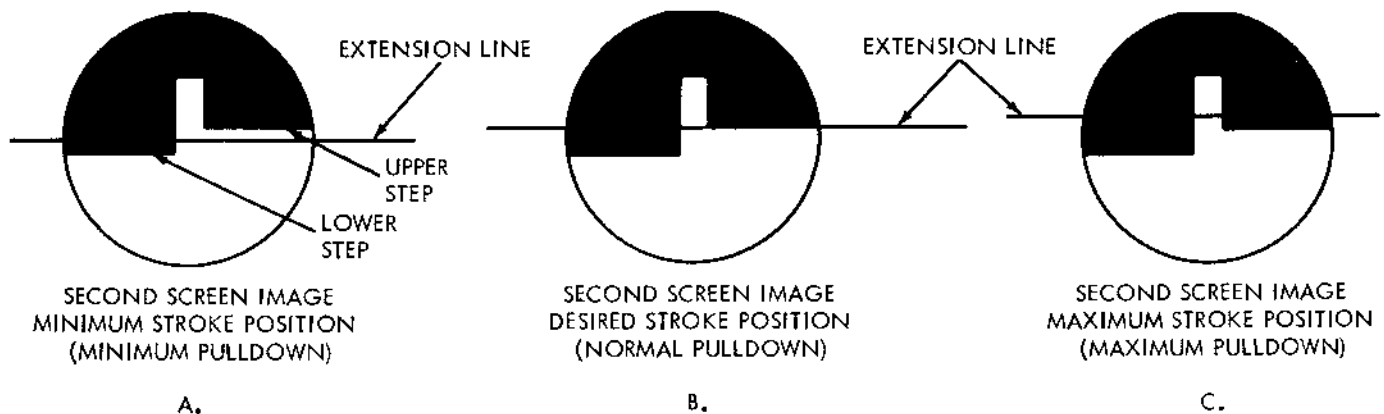

Figure 15E. Determining Pull-down (Stroke Position)
The distance of downward movement of image is the measurement used to determine pull-down. The image shown in (A) of Figure 15E represents minimum acceptable pull-down; the reference line on the screen is halfway between the lower (first) and upper (second) step of the image. Normal pull-down ( $0.3010 \pm 0.0005$  inch) is represented in the center illustration (B) of Figure 15E.
The second step of the image is coincident with the reference line. Maximum pull-down is represented by (C) of Figure 15E; the distance of the second step below the reference line is approximately half the difference ( $0.3010$  inch) between the first and second step.